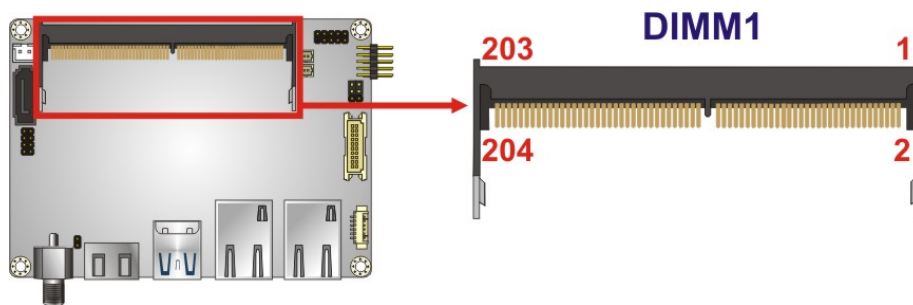

Figure 3-6: DDR3L SO-DIMM Socket Location
- CN Location:** See Figure 3-6